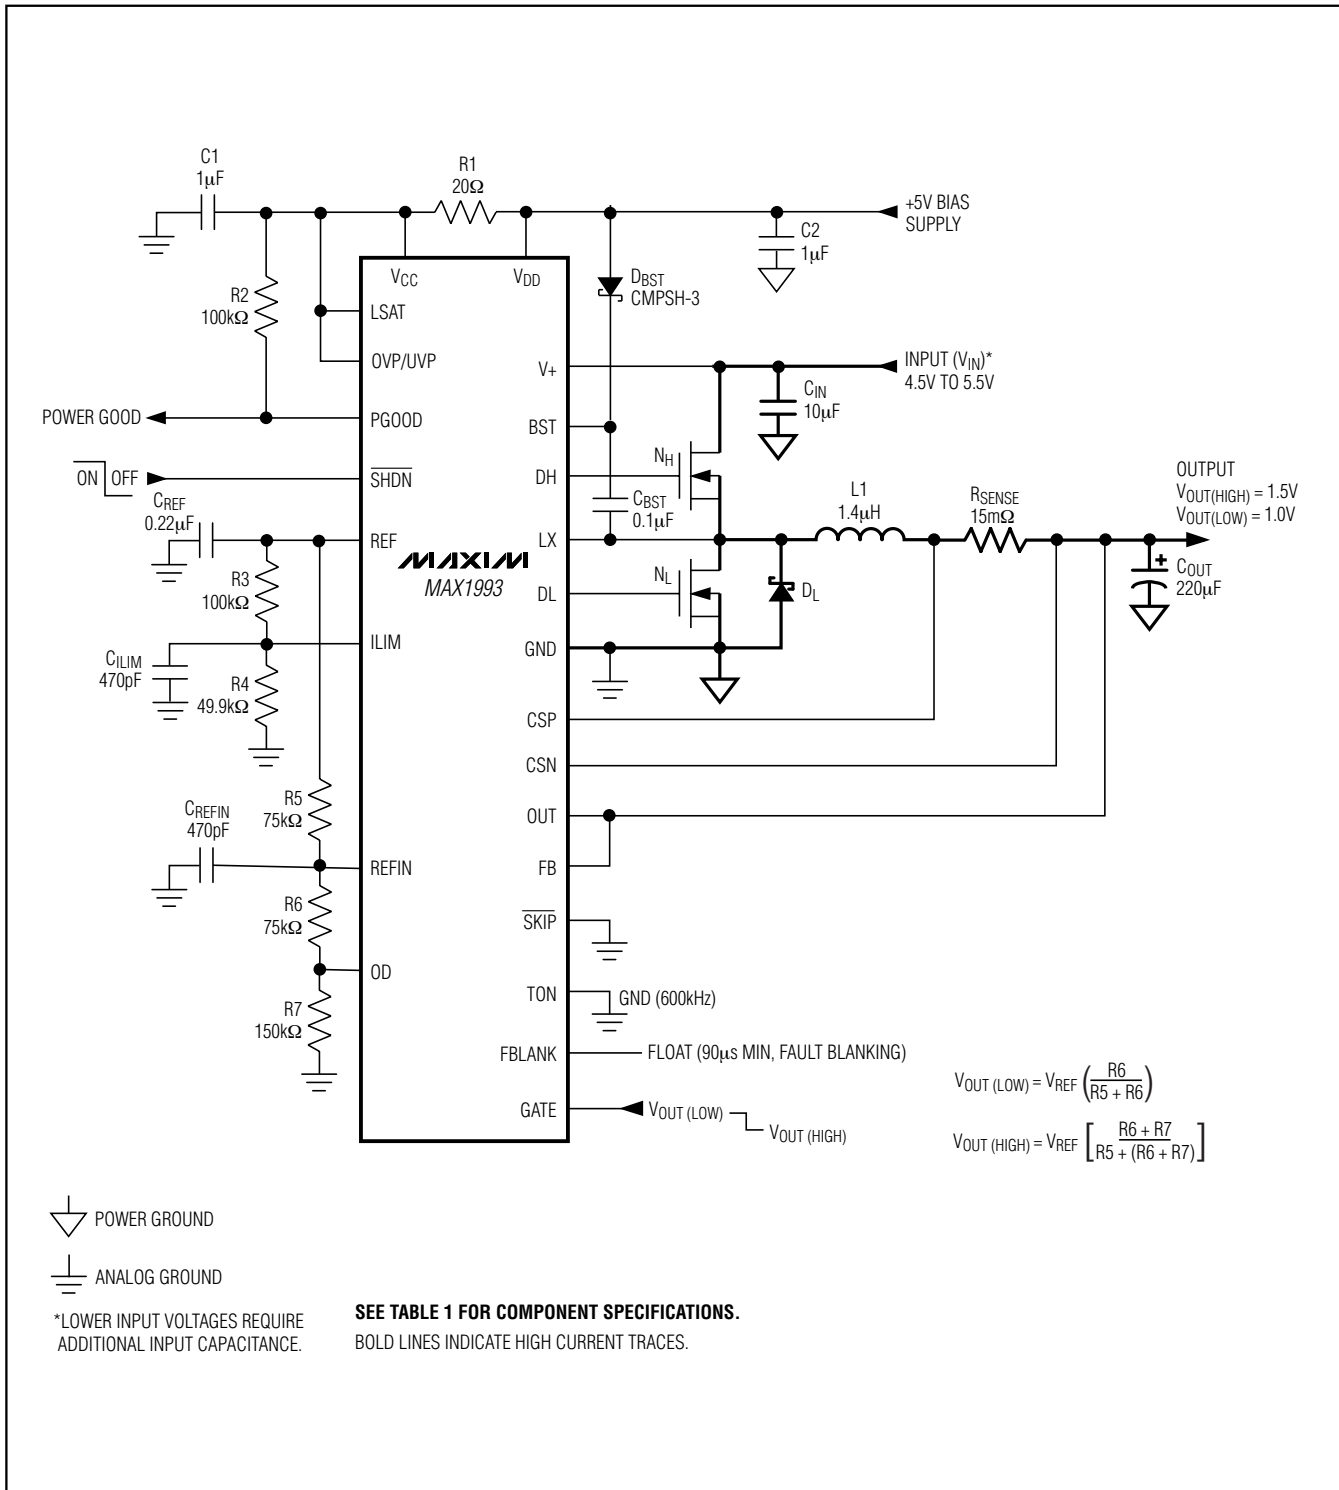

Figure 9. MAX1993 Standard Application Circuit
The MAX1993 regulates FB to the voltage set at REFIN. By changing the voltage at REFIN, the MAX1993 can be used in applications that require dynamic output voltage changes between two set points. Figure 9 shows a dynamically adjustable resistive voltage-divider network at REFIN. Using the GATE signal and open-drain output (OD), a resistor can be switched in and out of the REFIN resistor-divider, changing the voltage at REFIN. A logic high on GATE turns on the internal N-channel MOSFET, forcing OD to a low-impedance state. A logic low on GATE disables the N-channel MOSFET, so OD is high impedance. The two output voltages ($FB = OUT$) are determined by the following equations:
Adding a capacitor across REFIN and GND filters noise and controls the rate-of-change of the REFIN voltage during dynamic transitions. With the additional capacitance, the REFIN voltage slews between the two set points with a time constant determined by the equivalent parallel resistance seen by the slew capacitor (C_{REFIN}). Referring to Figure 9, the time constant for a positive REFIN voltage transition is: